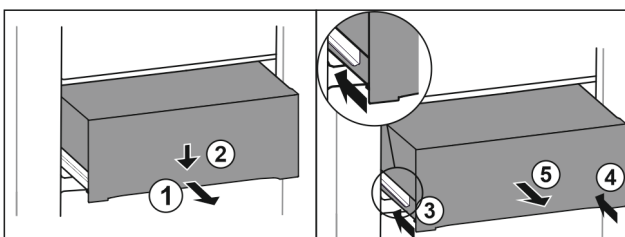

Fig. 169
- ▶ Pull out drawer half-way. Fig. 169 (1)
- ▶ Push the drawer down at the front. Fig. 169 (2)
- ▶ Push the left rail in by about 2 cm. Fig. 169 (3)
- ▶ Push the right rail in by about 2 cm. Fig. 169 (4)
- ▶ Remove drawer to the front. Fig. 169 (5)